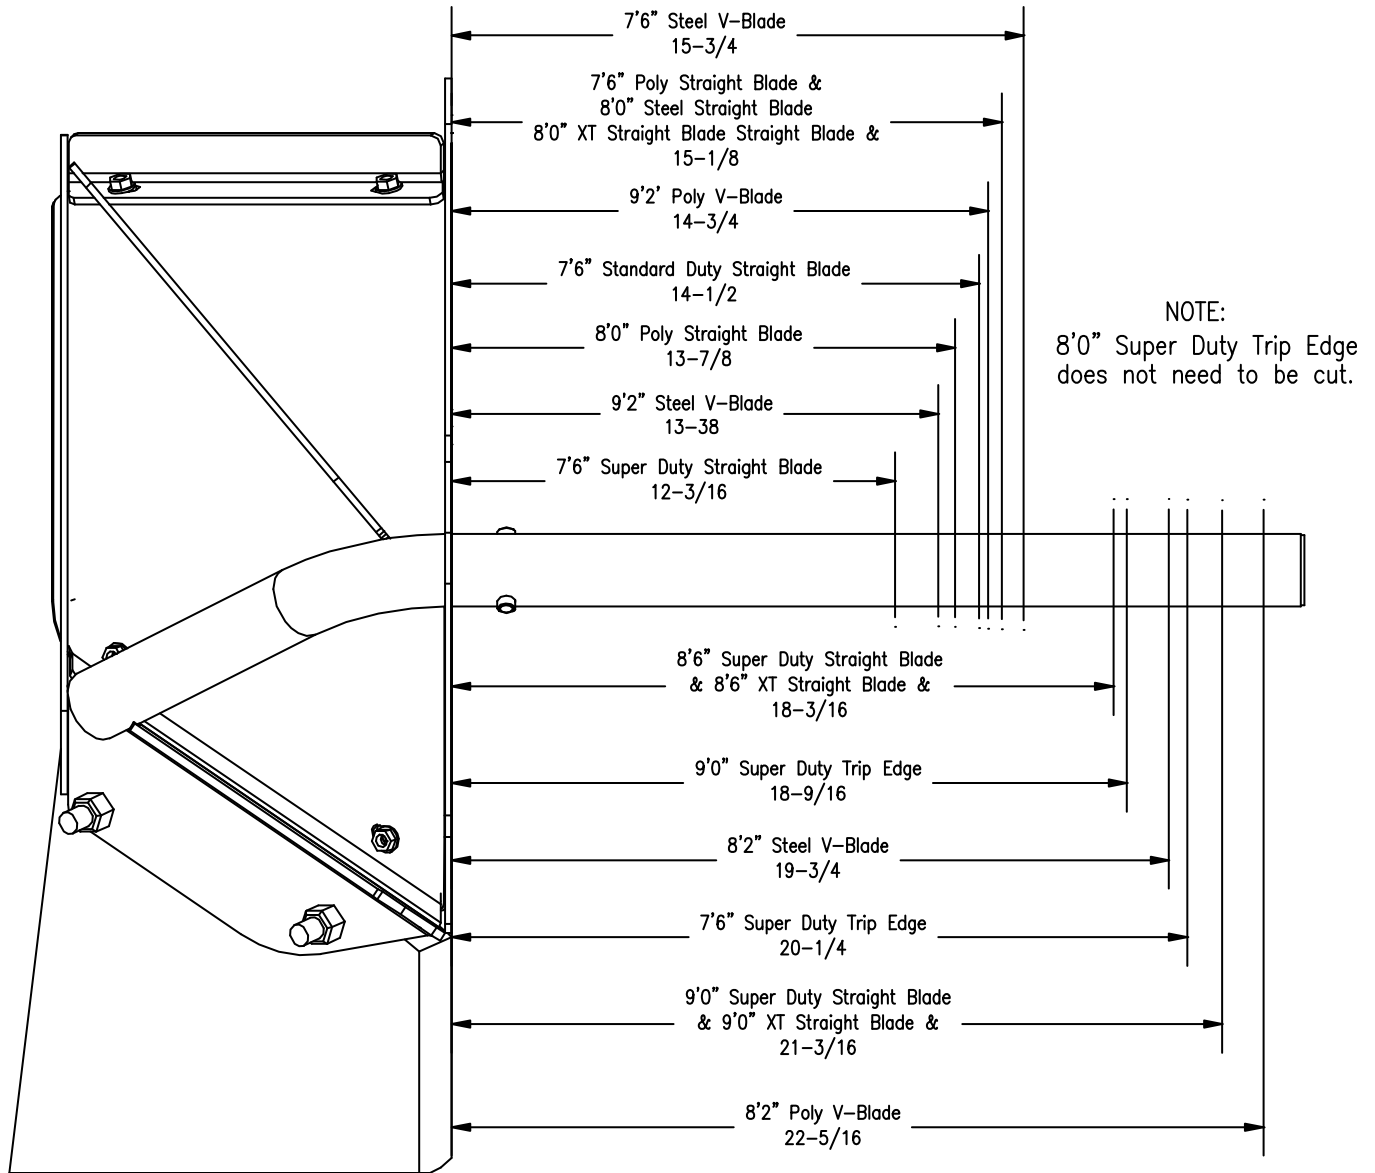

Figure 6. Blade Wing Tube cut locations
- 14) Attach and detach Driver Side Blade Wing (1) several times to ensure proper fit. Attach plow to truck and determine if all cutting edges are contacting ground. If not, loosen fasteners, adjust to proper orientation, and re-tighten. Skip to step 20.
- 15) If installing on 7'6" Super Duty Trip Edge, Blade Wing Tube must be cut off to avoid interference with Pushframe Attachment Bar. Cut tube parallel 20 1/4" from inside rib of Driver Side Blade Wing (1). See Figure 6.
- 16) Insert Driver Side Blade Wing (1) into first Plow Rib Bracket (5).
21) This step is optional. After installation is complete, Blade Wing Tube can be shortened by marking and cutting end of tube to 1/2" beyond inside of second Plow Rib Bracket (5). See Figure 6 for reference measurements. Tube Plug (8) must be inserted in end of Blade Wing Tube following cut to prevent corrosion.